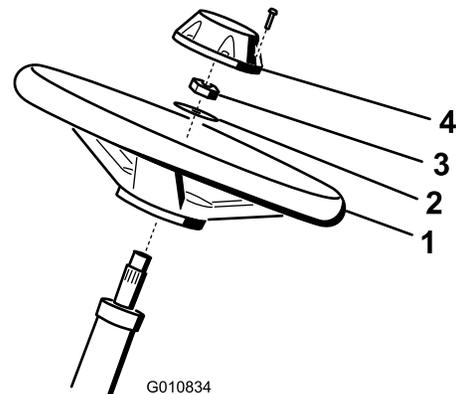

Figure 3
1. Slide the steering wheel onto the steering shaft (Figure 3).
2. Slide the washer onto the steering shaft (Figure 3).
- Secure the steering wheel to the shaft (Figure 3) with a jam nut and tighten it to 27 to 35 N·m (20 to 26 ft-lb).
- Install the cap to the steering wheel and secure it with a screw (Figure 3).